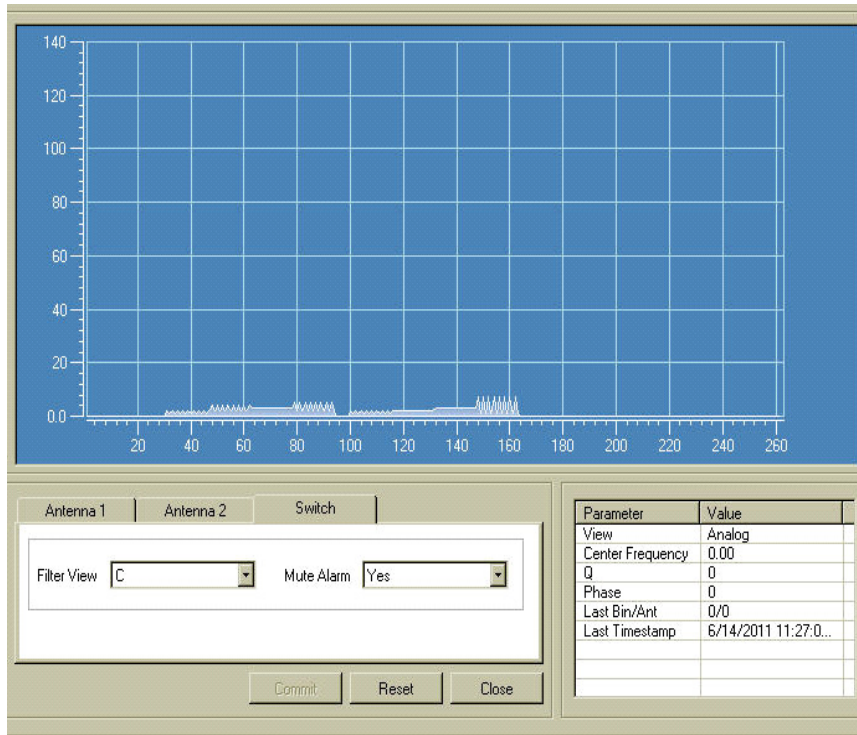

Figure 40: Typical Tuning on Filter C View
3. Flip to View C and adjust RX Gain individually for each pedestal, a few more notches down until the background resonances (if any) just about disappear. Because of the natural resonance for the TR4215, the view should look like figure 40. The RX Hardware gain in most typical cases will not need to be adjusted and should be set to 31.
The TR4215 board exhibits some natural internal resonance around 8 MHz which does not need to be tuned out. Because the signal is internal and the fact the Analog View is now multiplied by 2, the typical tuning should look like the figure 40